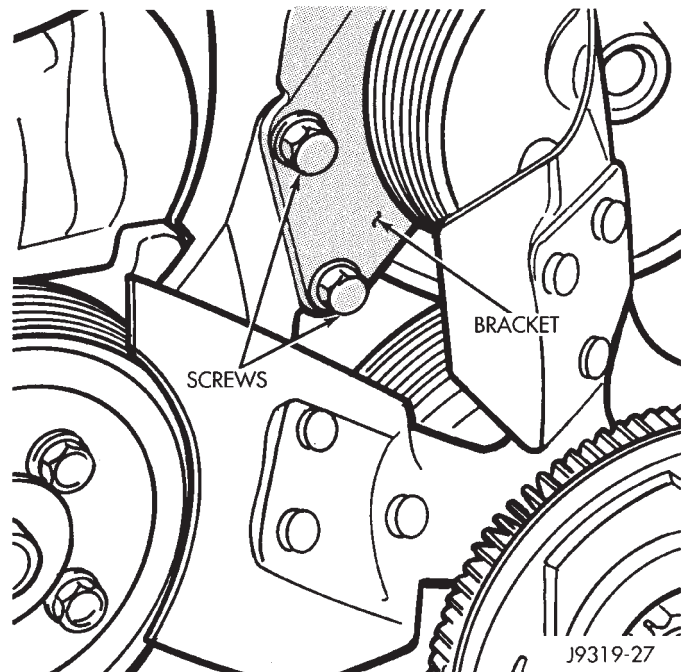

Fig. 9 Front Bracket
(4) Remove screws that attach the front bracket to the rear bracket (Fig. 9).
(5) Remove pump from bracket.